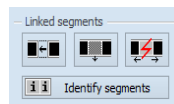

Figure 145 – Linked segments section of the Define layout tool
2. Press the  button on the second tab (the  icon) of the tools panel (see Figure 145).
- Press the  button on the second tab (the  icon) of the tools panel (see Figure 145).